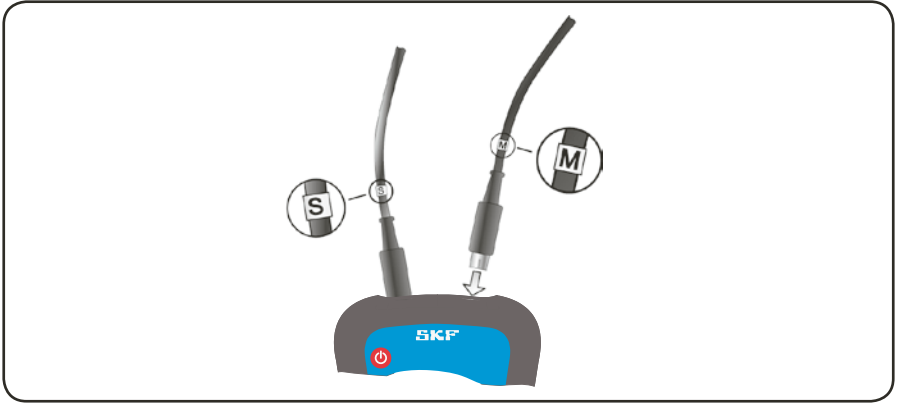

Fig. 9. Connection of the measuring units
- b) Connect the measuring units to the display unit. Make sure that the marking on the cables corresponds to the marking of the ports in the display unit (fig. 9).